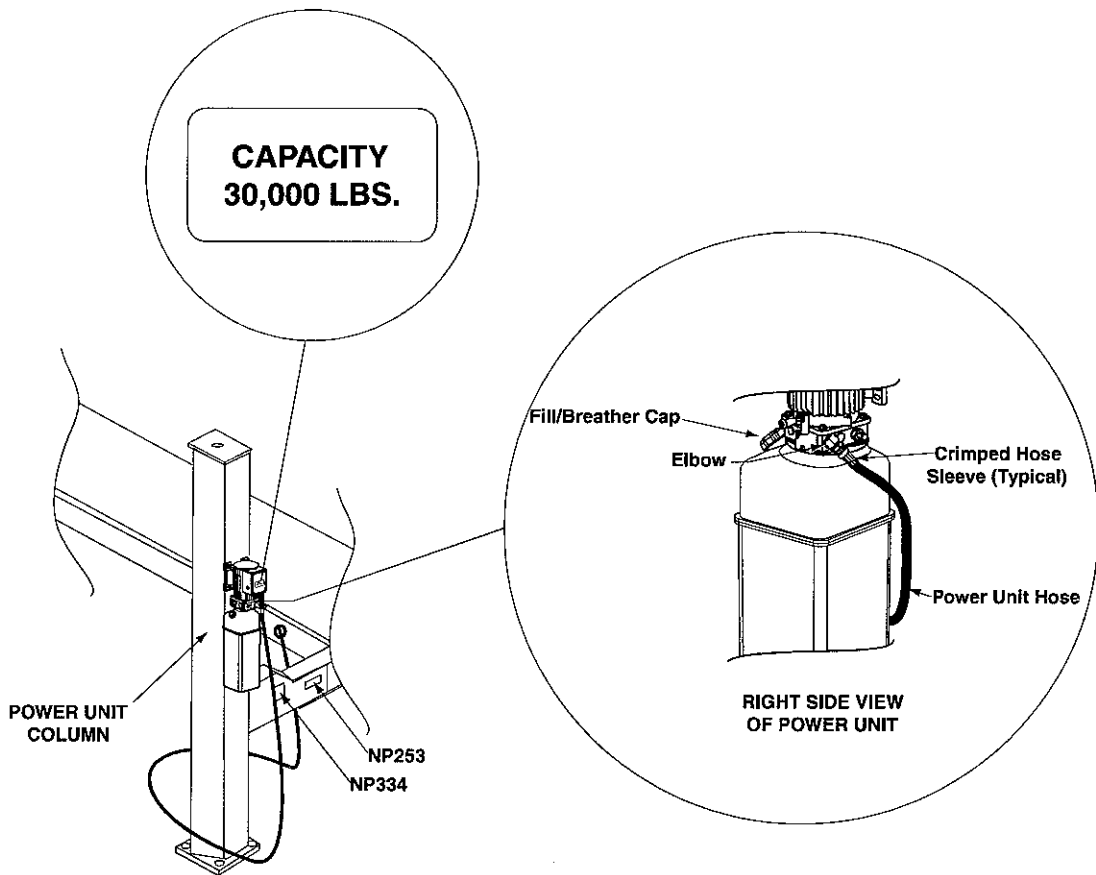

Fig. 17
- D. Run hydraulic hose from runway through slot in side of runway to power unit output port, Fig. 17. **DO NOT** use Teflon tape on hydraulic hose connections. Install and hand tighten elbow to pump until O-ring is seated and elbow should be oriented downward at approximately 45° , Fig. 17. Tighten locknut to 35-40 ft. lbs.
- E. Install enclosed capacity label on power unit, Fig. 17.
CAUTION If fill/breather cap, Fig. 17, is lost or broken, order replacement. **DO NOT** substitute with a solid plug.
- A. System capacity is twenty-two (14) quarts. Use Dexron III ATF. Remove fill/breather cap and fill vent screw, Fig. 17.